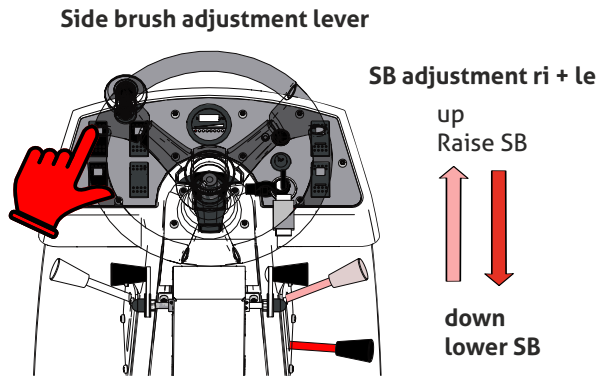

Fig. 33
- Side brush switch in **I (ON), 0 (OFF) Position**
- Lower side brush (**Fig. 33**)
- Fan switch in **I (ON) position** (dust vacuuming ON)
- Activate Sweeping Roller **I (ON), 0 (OFF) position**
- Operate the side brush switch (Fig. 33) - both side brushes rotate.